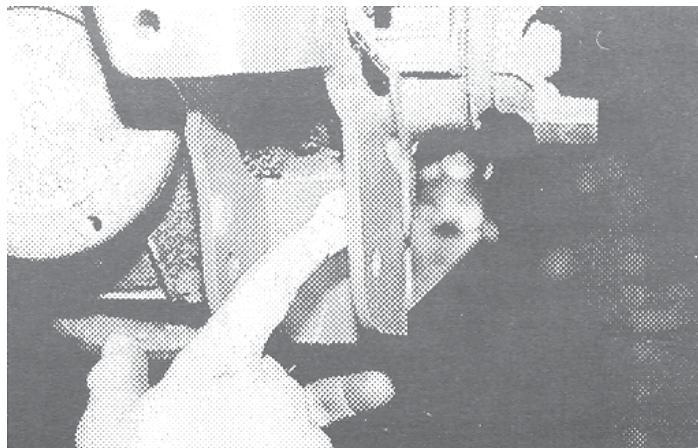

Fig. 19A
18. Join crossmember "R", open side rearward, to brackets "CR" and "CL". Install and tighten 7/16" x 1-1/4" bolts, washers, and nuts provided. Insert 12mm x 90mm bolt and washer supplied, through "CL" into differential ear and crossmember, retain with OE nut. Run up 7/16" and 12mm bolts. **Do not tighten at this time. Fig. 19A**. Note slots in "CR" and "CL" at engagement points. Raise differential assembly (assembly "R") for late models. Lower assembly "R" for early models. Maintain identical engagement heights on "CR" and "CL" with assembly "R".